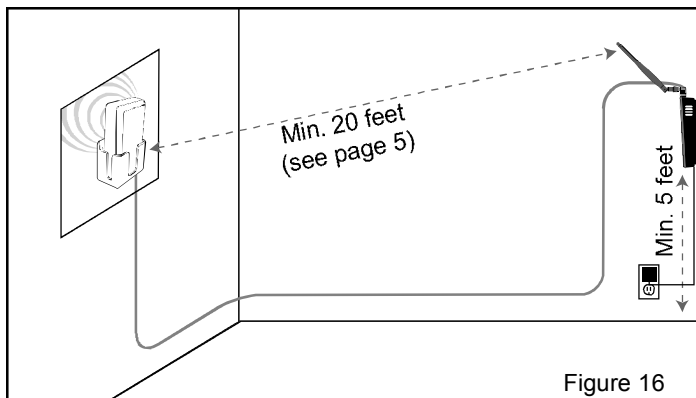

Figure 16
6. Slide the amplifier onto the bracket. Position the antenna at a 45-degree angle for best performance (see Figure 16).